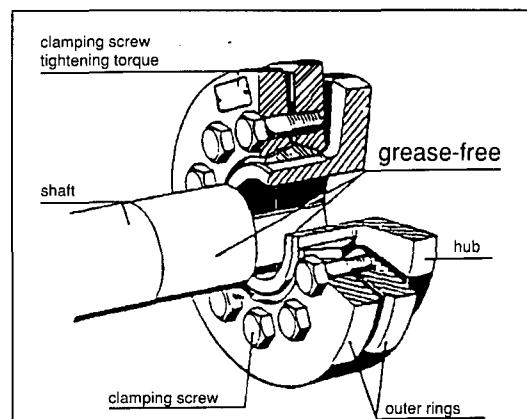

Fig. 4
2.3.2.1 Mounting the shrink disc (Fig.4)